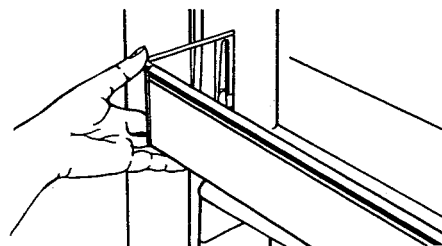

Figure 22
- Pull shelf straight up. See Figure 22.